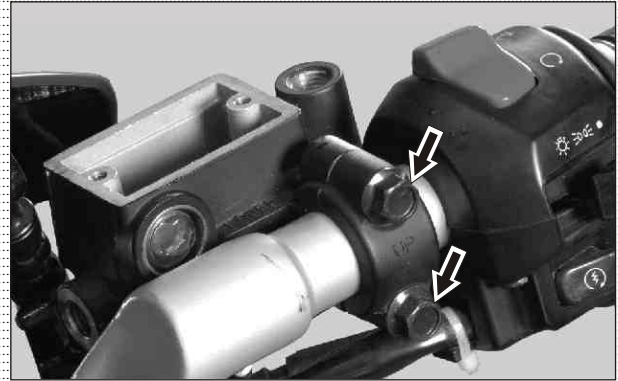

Fig. 6.30
- Remove holder by unscrewing holder mounting bolts (2 nos) and take out the master cylinder. (Fig. 6.30)